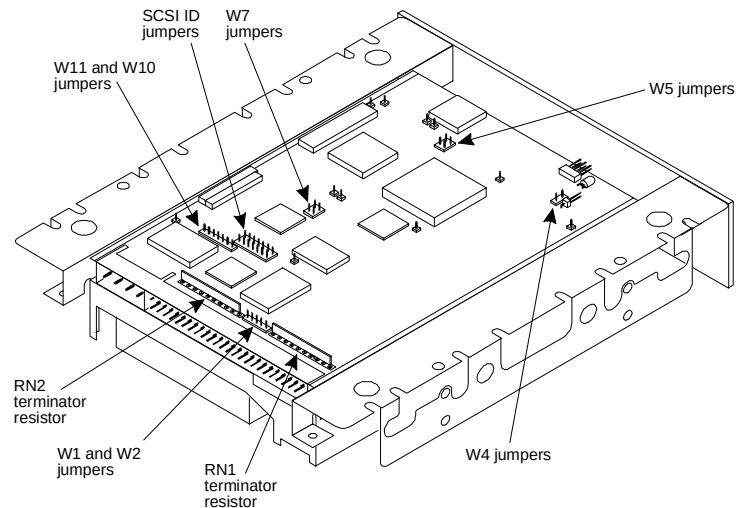
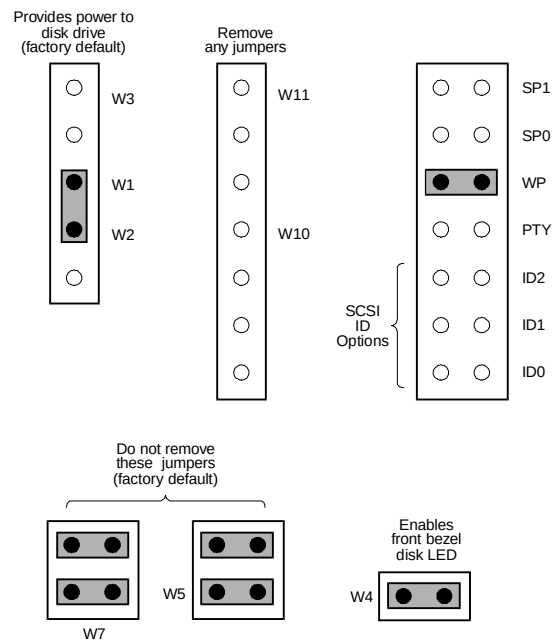
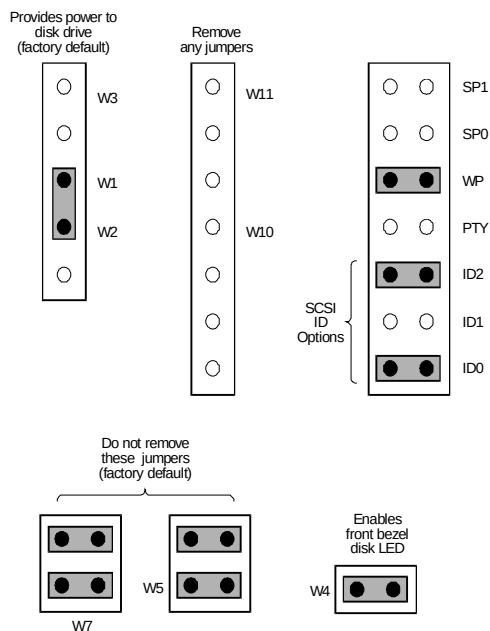

Figure A-4. Jumper Locations on the 1.7-Gbyte SCSI Hard Disk Drive (Comcode 407071950)
Figure A-5. Jumper Settings for the First 1.7-Gbyte Disk Installed; Bay 1, SCSI ID = 0
Figure A-10. Jumper Settings for Sixth 1.7-Gbyte Disk Installed; Bay 4, SCSI ID = 5
- Figure A-4 shows the location of the jumpers on the 1.7 Gbyte SCSI hard disk drive (Comcode 407071950). Figure A-5 through Figure A-10 show the jumper settings.